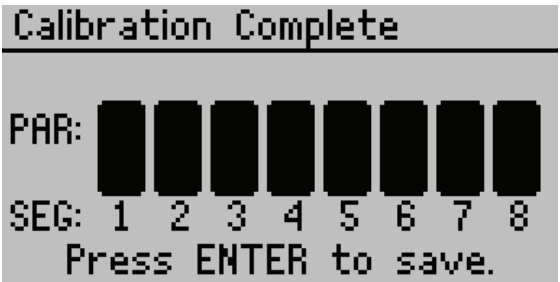

Figure 33 Calibration Complete screen
11. Press **ENTER** again to complete the calibration (Figure 33).